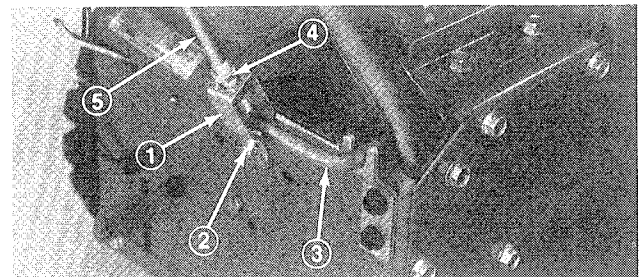

Figure 4
2. Rotate clevis at end of auger drive control rod until holes in clevis line up with hole in bent rod. Temporarily insert clevis pin thru holes (Fig. 4).
4. Secure clevis pin with cotter pin and tighten the jam nut firmly against top of clevis (Fig. 4).